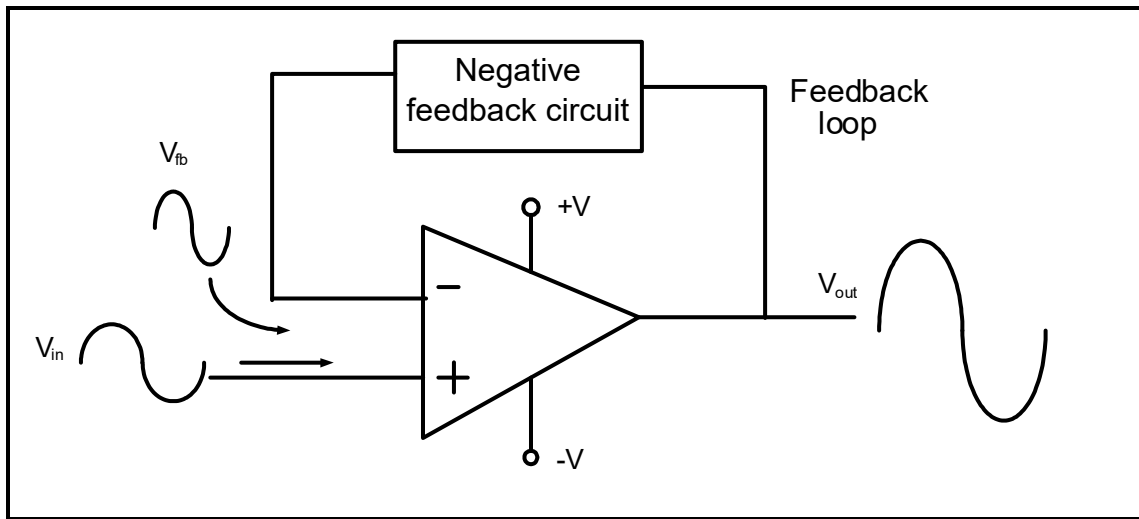

FIGURE 4.1: FEEDBACK OF OP AMP
4.1 Refer to FIGURE 4.1 below and answer the questions that follow.
4.1.2 Briefly describe the effect of the negative feedback circuit in FIGURE 4.1 above. (2)